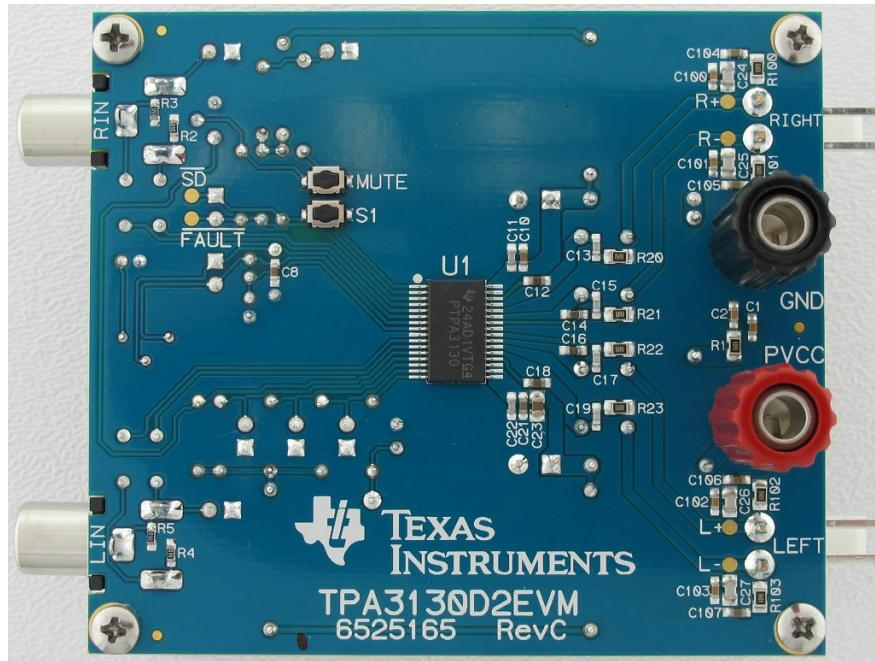
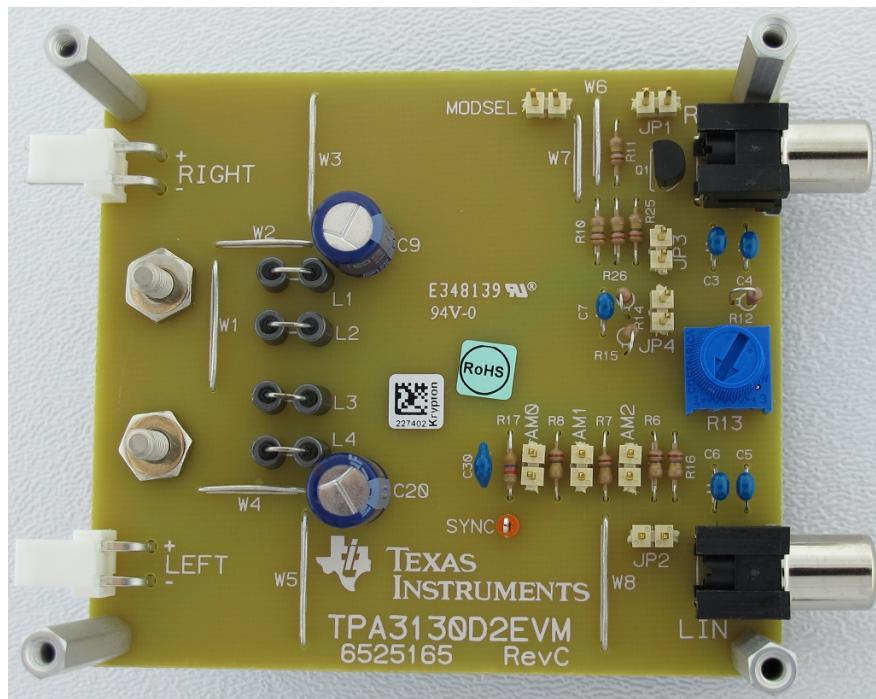

Figure 1. TPA3130D2EVM Top Photo
Figure 2. TPA3130D2EVM Bottom Photo
- 1 pc. TPA3130D2EVM board using one TPA3130D2 (illustrated in Figure 1 and Figure 2).